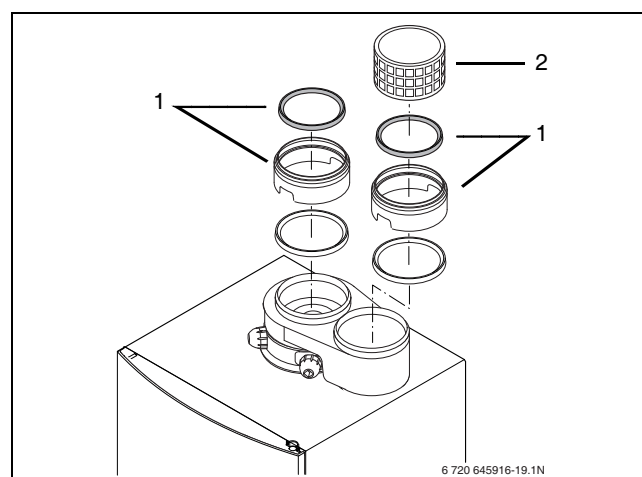

Fig. 20 Connecting the flue gas adapter (parallel)
- ▶ When installing concentric PP venting material remove upper lip ring and insert (→ fig. 20, [1]) and place air intake cap [1].